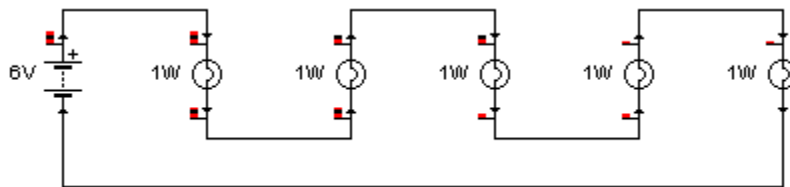
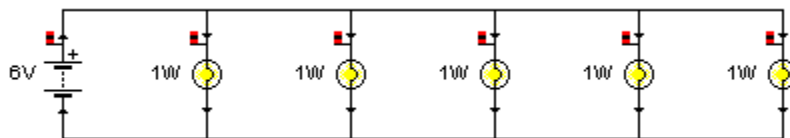
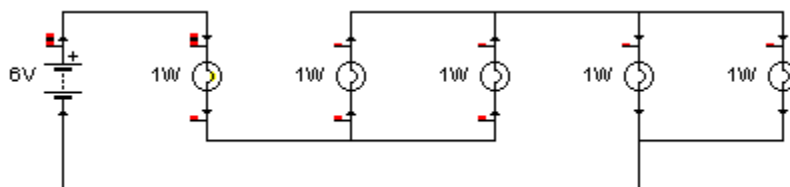

Figure 2: Series Connections
Figure 3: Parallel Connections
Figure 4: A Series-Parallel Connection
**Suggested Uses:** A few of the many possible series/parallel circuit combinations are shown schematically in Figures 2 through 4 below. Have students carefully note the relative brightness of the different bulbs in a few simple cases, then see if they can predict the relative brightness of the various bulbs prior to powering up a new circuit configuration.
A basic, but important, point that can easily be seen with the light boards is the need for all bulbs to be operating when a series circuit is connected whereas the bulbs act independently of one another in parallel configurations. In the circuits of Figures 2 and 3, have students loosen single bulbs, and then loosen various combinations of bulbs. Then, using the circuit of Figure 4, you can verify the students' comprehension by having them predict what would happen if one or more bulbs were loosened (or burned out). (You might want to keep some burnt-out bulbs around. These can be inserted in various board combinations along with good bulbs to see how students go about finding the bad bulbs (other than by filament inspections!) One bad bulb is relatively easy to locate, but 2 or more bad ones in the circuits of Figures 2 or 4 can be a pretty good challenge (further demonstrating the convenience of the circuit in Figure 3).